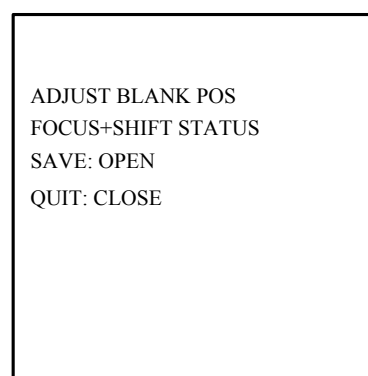

Figure 3.3.25
1. Use the joystick or direction buttons to position the cursor beside SET BLANK and then press IRIS+ to enter the window blank setting menu. Refer to Figure 3.3.25. A purple smear window will appear on the screen (the color of window varies depending on camera models).